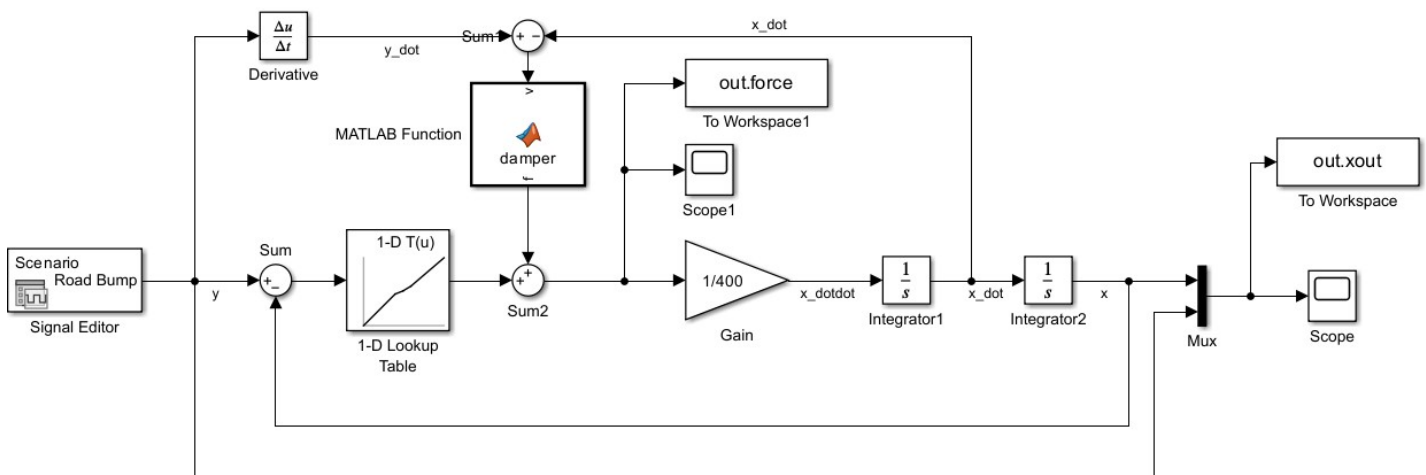

Figure 6: Simulink block diagram model
- Open the **Signal Editor** block to define the input function profile based on the Figure 6 as below:
- Enter the **Time** values as [0 0.1 3 3.1 10] and **Data** values as [0 0.2 0.2 0 0] based on road bump profile from Figure 6.